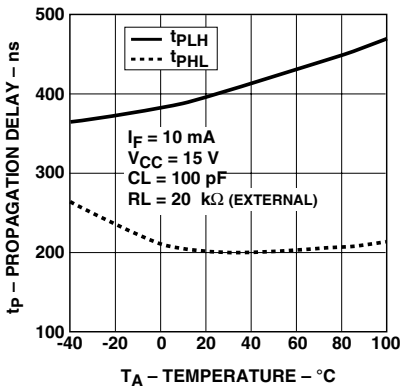

Figure 8. Propagation delay with external 20 kΩ RL vs. temperature.
- Due to tolerance of the internal resistor, and since propagation delay is dependent on the load resistor value, performance can be improved by using an external 20 k Ω 1% load resistor. For more information on how propagation delay varies with load resistance, see Figure 8.